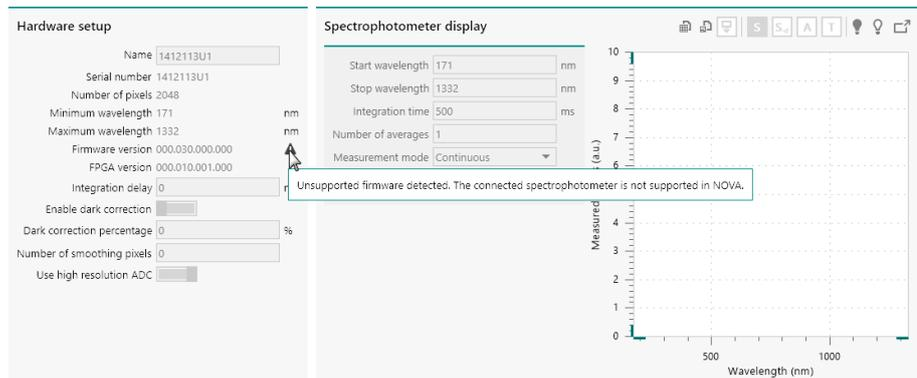

Figure 144 An error is shown when an unsupported firmware is detected
- Other versions:** all other firmware versions are not supported in NOVA. When an unsupported firmware is detected, a warning error symbol is shown in the **Hardware setup** panel, with an indication that an unsupported firmware is detected, as shown in Figure 144. In this case, the spectrophotometer cannot be used.